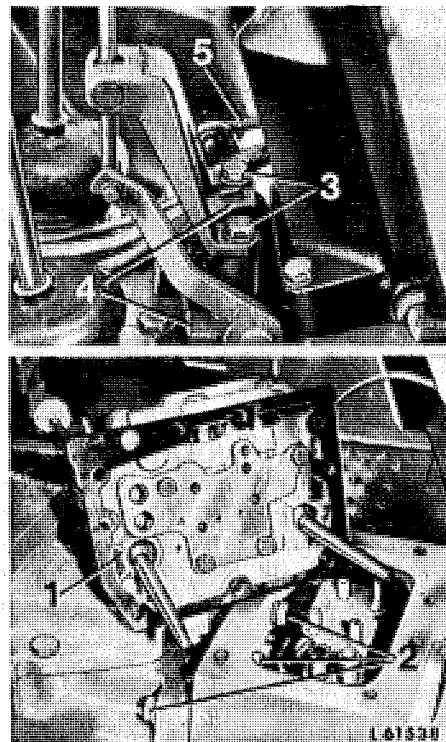

Fig. 7 — Removing Shift Cover
*On tractors equipped with Hi-Lo shift unit:* Remove cap screws (see 3, fig. 7). Disconnect connecting rod from shaft arm and remove cover 4 complete with shaft.
*On tractors equipped with independent PTO:* Before removing cover (see 4, fig. 7), pull PTO control lever in engaged position. After cover 4 has been removed, do not move PTO control lever otherwise lock balls and springs will drop out of cover.